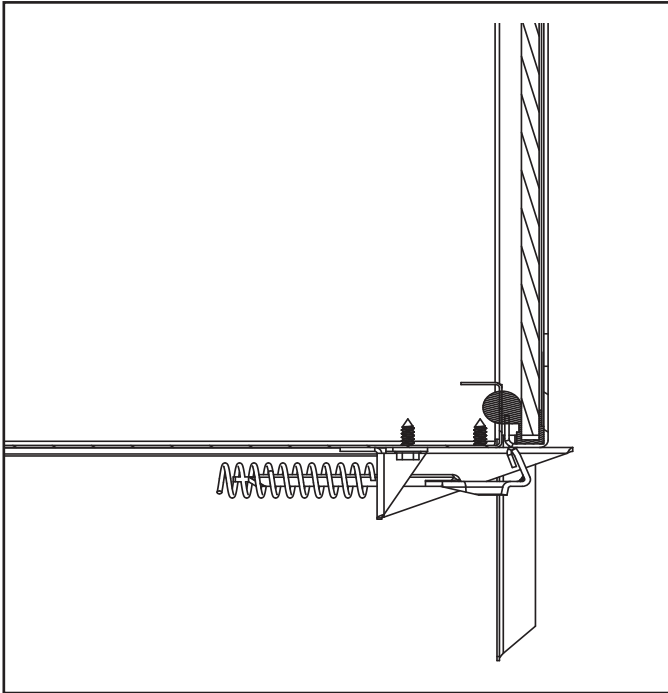

Figure 4.1 Fixed Glass Assembly
- The glass assembly fastens to the fireplace in four places. Four of the fastening mechanisms are spring-loaded glass latches. An example of the glass latch is shown in Figure 4.1.